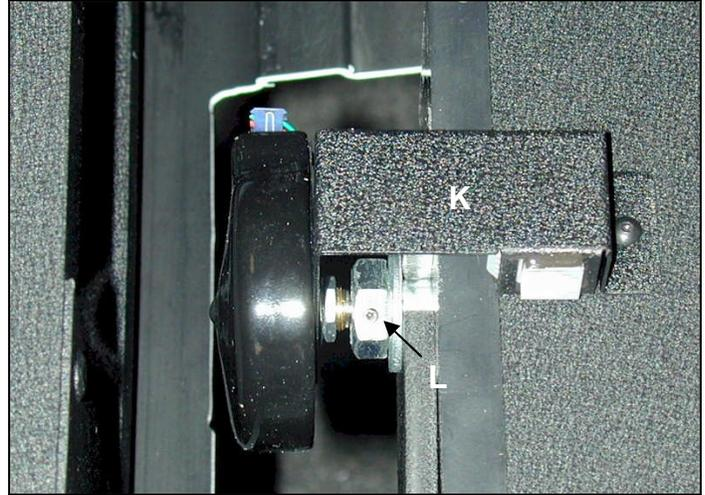

Figure 8
10. Attach the altitude encoder (8-K) as shown in Figure 8. There is a setscrew (8-L) in the head of the bolt. Tighten the setscrew to secure the encoder shaft. The two encoder cables (9-M) are labeled. Plug each cable into its corresponding encoder jack.